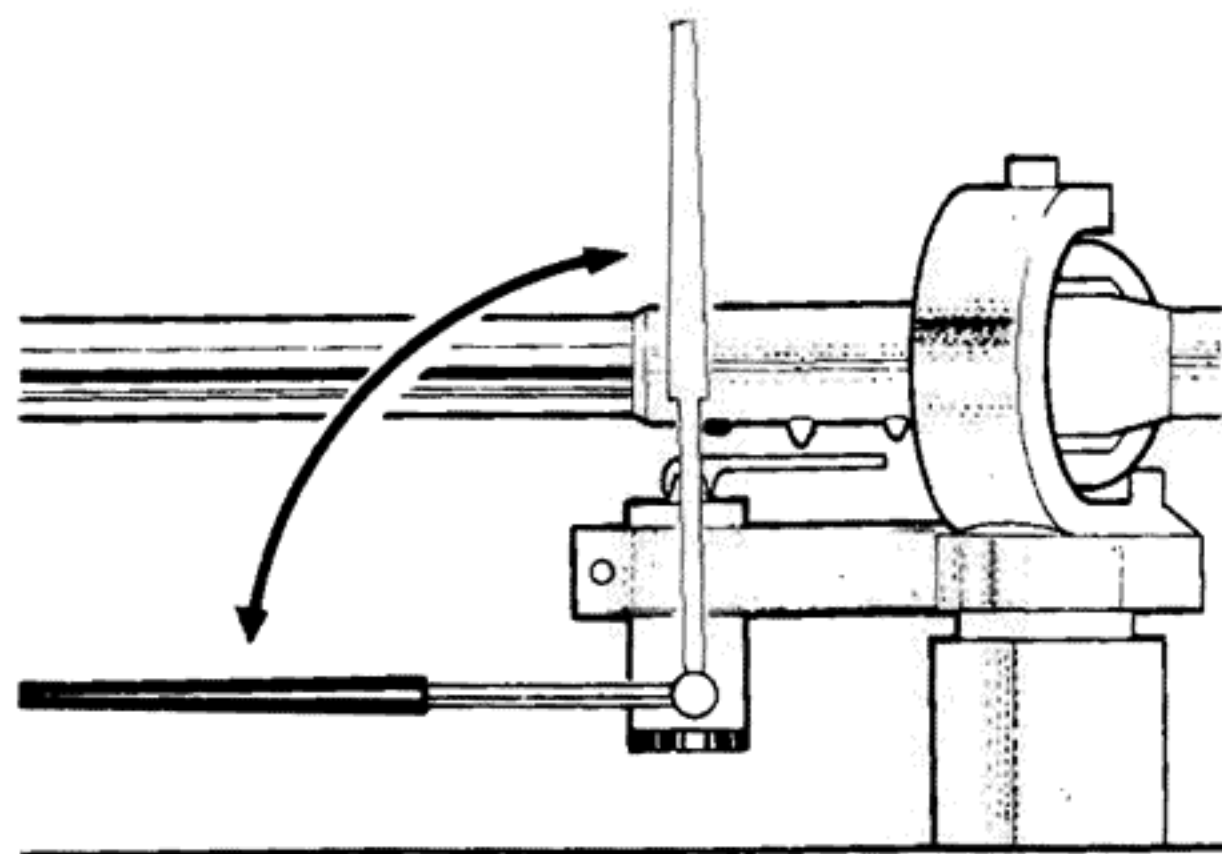

Fig. 23
2. To raise the stylus at any point on the record, simply slide the lever in the other direction. See Fig. 23.